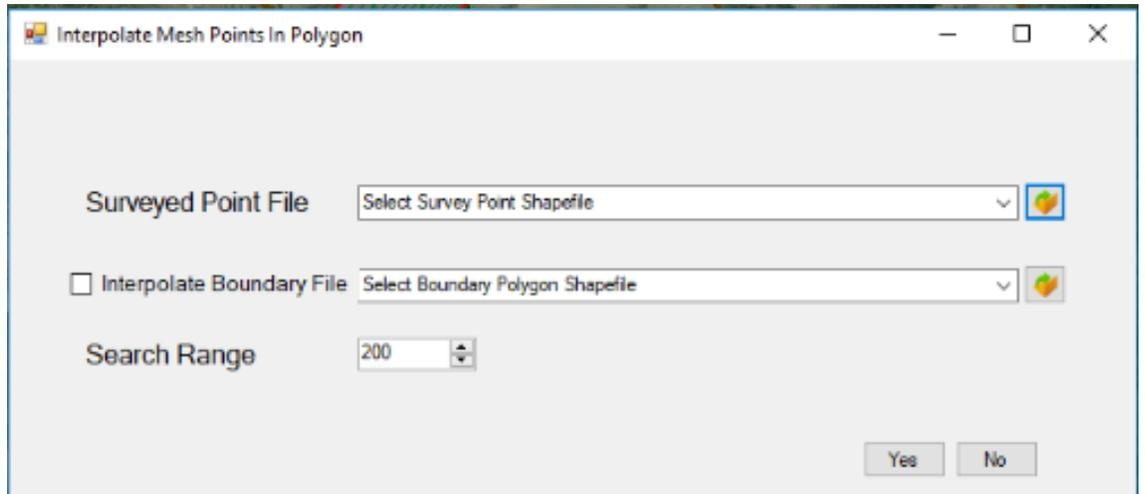

Figure 3-26. Interpolate mesh elevations to GIS point shapefile.
1. Select Mesh>Interpolate Mesh Elevations to Survey Points in Shapefile bounded by Polygon in Shapefile. A form will appear (Figure 3-26).